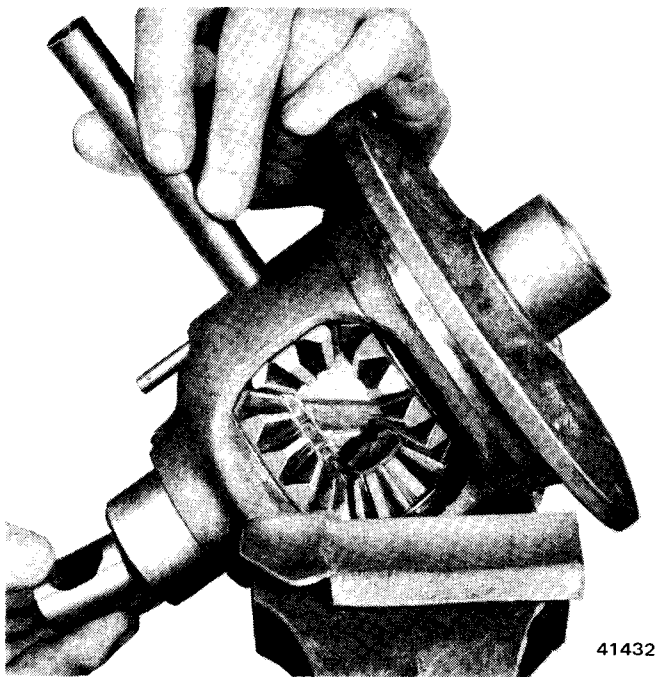

Fig. 10-36 Removing Pinion Mate Shaft and Thrust Block
- (2) Remove pinion mate shaft and remove thrust block (fig. 10-36).
- (3) Roll pinion gears around on side gears until they can be removed from case, then remove side gears and thrust washers.